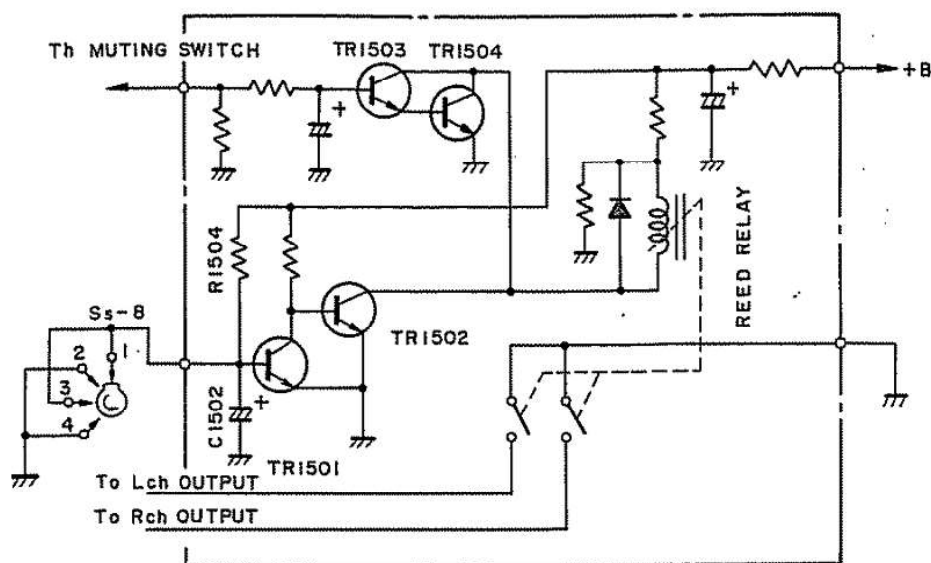

Figure 37
The switch Ss-8 is a shorting type, goes through a short-circuit condition when turning from 1 (AM) to 2 (FM), etc. (it is momentarily grounded). This turns TR1501 off and TR1502 on. Thus, REED Relay is activated and output is cut off. The time constant of R1504 and C1502 allows the cut off condition to last for about one second (before C1502 charges up to a point where TR1501 turns on again, etc.). (Figure 37)